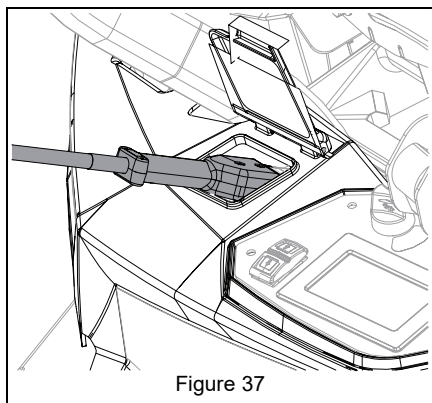

Figure 37
5. Connect charger connector to charging port on the machine. See Figure 37.